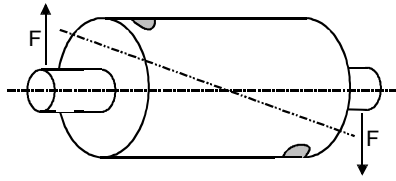

Figure 76: Couple balance
**Couple balance** occurs when the rotor axis and the mass axis are not congruent and when both axes intersect at the center of mass. The resulting force effect on the bearings is equal in amount but different in direction by  $180^\circ$  (Figure 76).